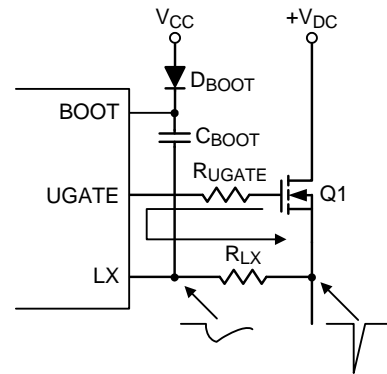

Figure 6. LX Pin Resistor
- ▶ In Figure 6, the LX pin voltage drop can be improved by adding R_{LX} ($R_{\text{LX}} = 1$ to 10 Ω), because the dv/dt is affected by ($R_{\text{LX}} + R_{\text{UGATE}}$).